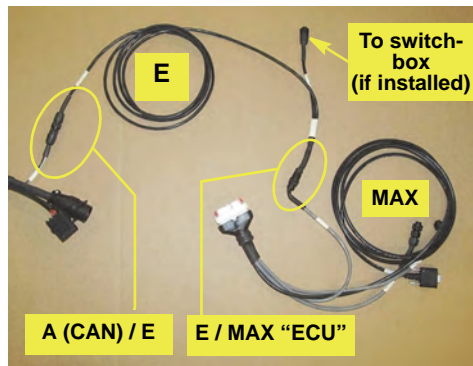

Figure 1b: Splitter cable connections
- b. Using the splitter (‘Y’) cable **E** (but see note following), tie into the existing CAN connection. For example, connect **E** between the 7-pin CAN connector labeled “ECU” on the Outback MAX cable (with the white main connector) and the 7-pin CAN connector on interface cable **A** (Figure 1b).
You can use splitter cable **E** as an extension cable between interface cable **A** and the CAN connection “ECU” on the (white connector) Outback MAX cable. You can also use cable **E** to connect the switchbox if installed (Figure 1b).